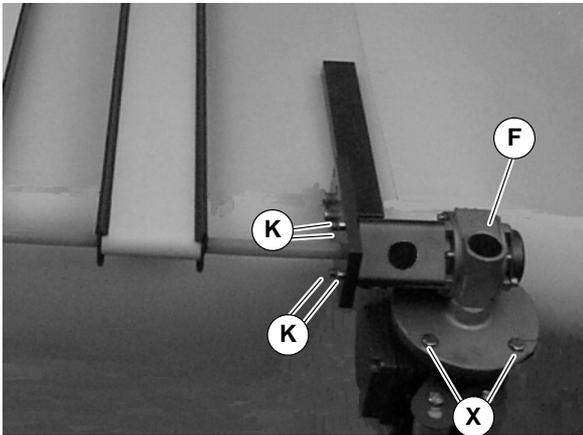

Figure 25
- Remove four (4) screws (K of Figure 25) and remove gear motor assembly (F).